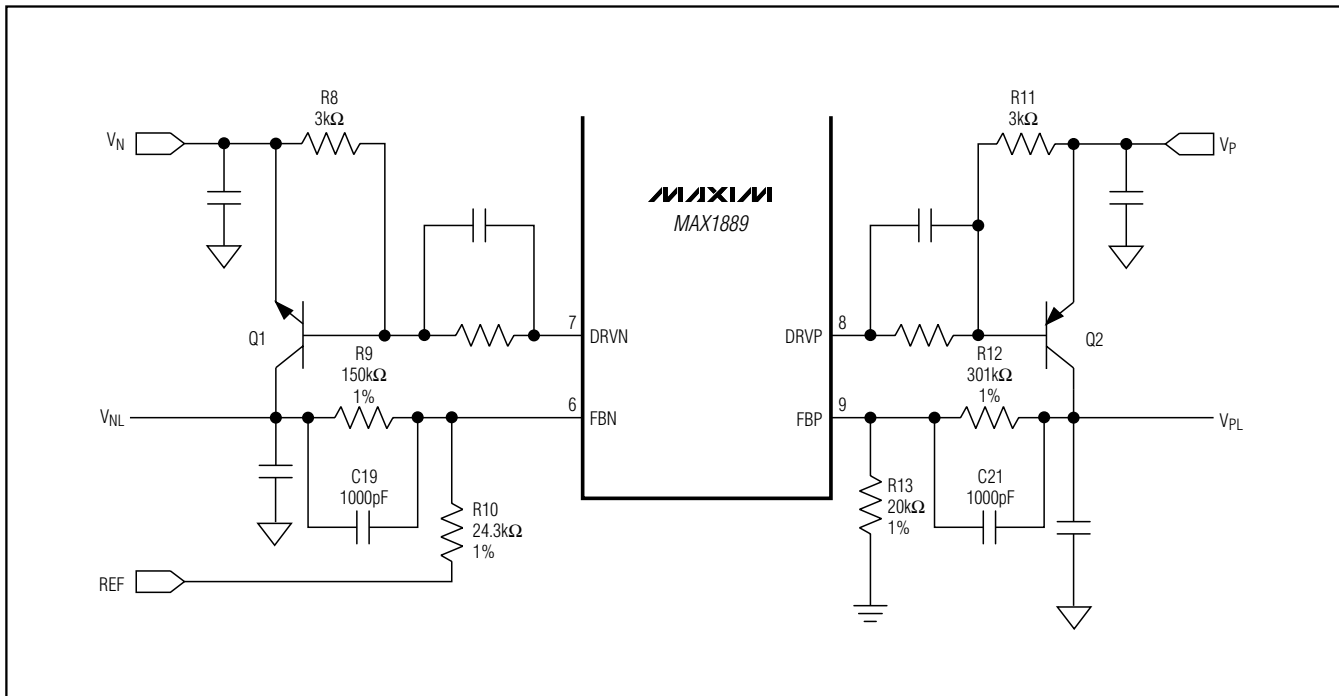

Figure 8. LDO Compensation
- 3) A third pole is set by the linear regulator's feedback resistance and the capacitance (including stray capacitance) between FB₋ and GND (for the positive LDO) and FBN and GND (for the negative LDO) (Figure 8):
A capacitor connected between the output and the feedback node improves the transient response, reduces the noise coupled into the feedback loop, and maintains the correct regulation point (Figure 8).